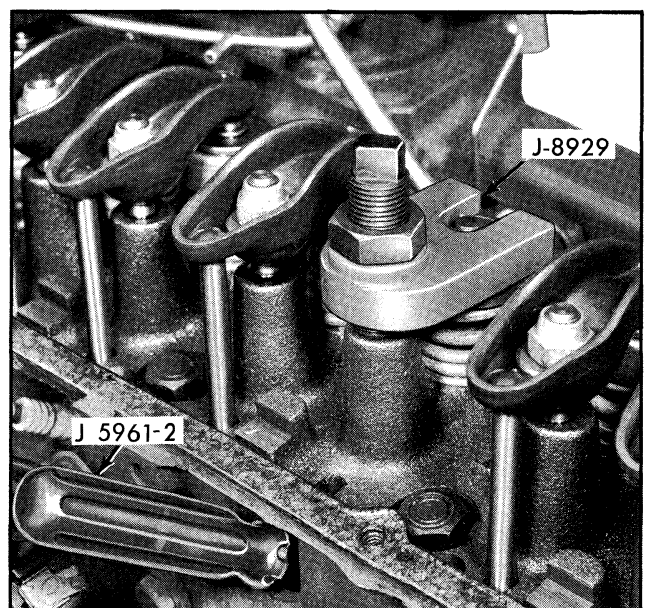

Fig. 6-17 Valve Spring Compressor Installed
4. After removing rocker arm, thread valve spring compressor stud J-8929-1 on rocker arm stud. Compress valve spring using compressor J-8927-4 and nut J-8929-2 while holding valve up with valve holder J-5961-2 (Fig. 6-17). Remove valve spring retainer cup locks and then remove valve spring compressor, valve spring retainer cup shield and valve stem seal.